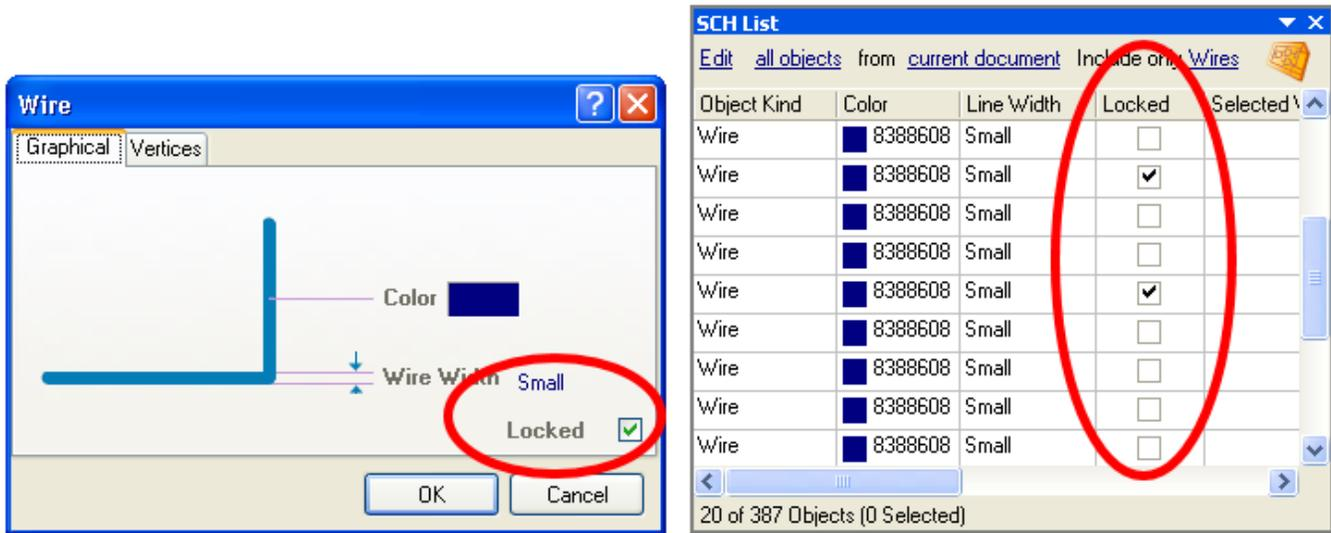

Figure 18. Enabled Locked property for Wires
1. To lock a group of schematic objects, you can use the SCH List panel to toggle the Locked options as shown in right side of Figure 18. You can do the same for a group of PCB objects in the PCB List panel as well.
2. To lock an individual object, double-click the object and when its properties dialog opens, enable the Locked option as shown in the left side of the Figure 18.